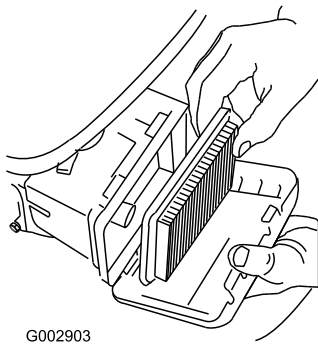

Figure 33
3. Remove the air filter (Figure 33).